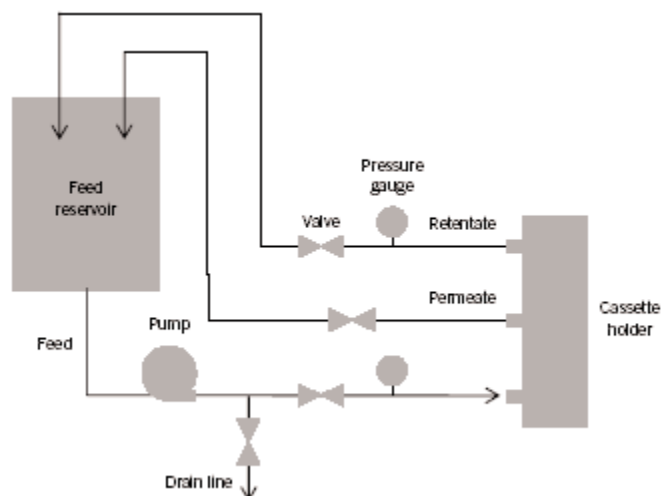

Figure 4. Typical setup for extended recirculation of cleaning solution during cleaning.
3. Configure the system so that the retentate and permeate lines discharge to waste (Figure 4). Close the feed, retentate, and permeate valves.
1. Configure the system so that the retentate and permeate lines discharge to waste (Figure 4). Close the feed, retentate, and permeate valves.